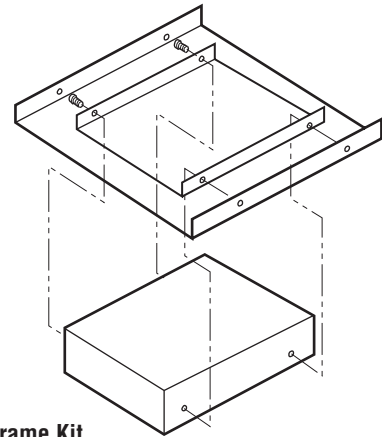

Figure 2 - F-TBF Frame Kit
3. Mount the heater back box to the F-TBF kit frame using the four (4) screws provided with kit. See Figure 2.